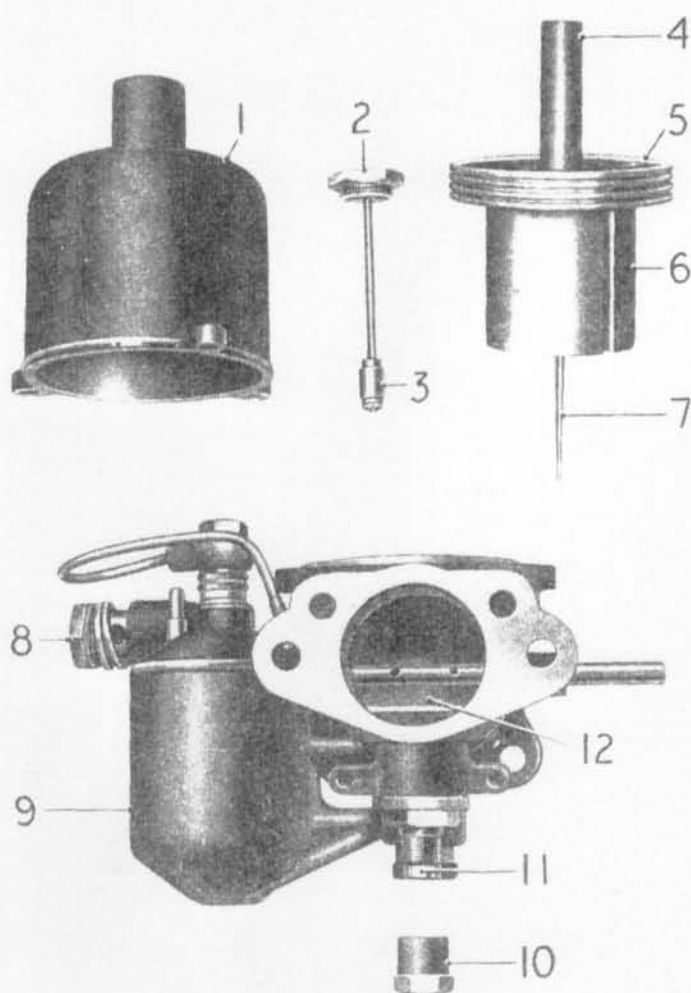

Fig. 14. - CARBURETTER - EXPLODED VIEW.
The suction disc (5, Fig. 14) does not touch the walls of the valve chamber, there being a small clearance, and it is centralised solely by the piston rod working in the guide. Therefore, any sluggishness in movement is probably due to dirt in the guide, or on the valve chamber walls.
2. The strength or quality of the mixture for slow running is set by means of an adjustable screw in the base of each carburetter (11, Fig. 14). The screw operates to raise or lower the jet. Raising the jet causes the taper needle to sink farther into the orifice, so weakening the mixture. Conversely, lowering the jet enriches the mixture.
3. Remove the cap (19, Fig. 14) from the base of each carburetter to expose adjusting screw. With the engine warm and running, manipulate the screws; a coin provides an easy means of turning, so that the engine runs regularly. Any sign of "hunting" is due to too rich a mixture and one or both of the screws should be screwed farther in.